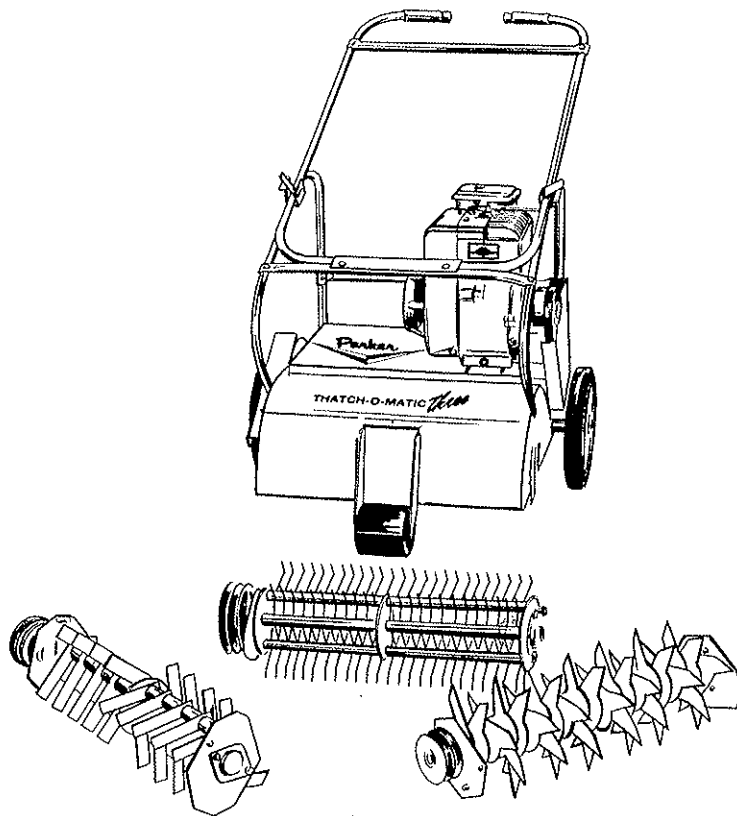
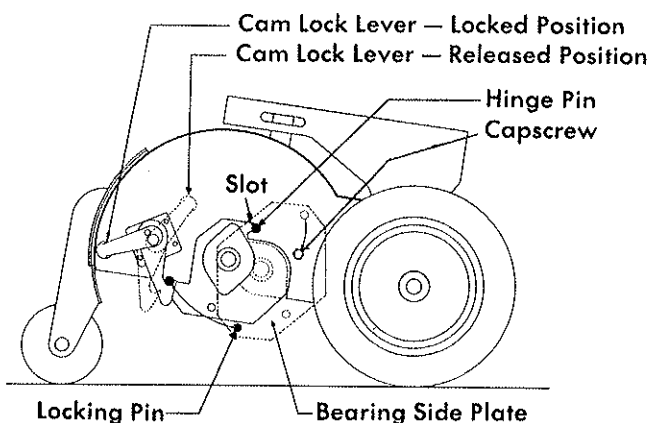

Fig. 1
Fig. 4
6. The three reels as shown on the front cover are oriented correctly to be placed in the machine with the sheaves on the reel to the right side of the machine or to the left as you stand in front of the machine. Refer to Fig. 1. Remove cap screw, Fig. 4, from both reel bearing side plates. Place the reel selected on the ground in front of the roller with the reel sheave to the right of the machine. Push down on handle to raise roller to clear reel as machine is pushed forward. When housing is directly over reel, lower housing so that roller touches the ground in front of reel. With reel under machine, lift reel up into position by placing hinge pin into slot in main housing side
plate. Position cam lock by pushing lever toward rear of machine on each side to clear locking pin, Fig. 4. Swing reel up into position. Turn cam lock lever to front as far as it will go to secure reel in place. Replace both cap screws, Fig. 4.
4. To remove any one of the reels from the machine, remove the belt guard from the right hand side of machine. Take out the cap screws, Fig. 4, from the bearing side plate on each side of machine. Next, move cam lock lever toward rear of machine to release the reel and swing the cam lock away from the locking pin. Push the reel down and toward the back of the machine. Next, remove the belts from the reel sheave and lift the reel assembly toward the front of the machine which will take the hinge pins out of the slots in the housing side plate, allowing the reel assembly to fall free of the machine. If it is necessary to change the jackshaft sheave, follow the instructions in paragraph 5 of assembly instructions. After the proper sheave is in place on the jackshaft, place the new reel under the housing with the sheaves on the same side of the machine as
the two-groove sheave on the jackshaft, which is the right hand side of the machine. Lift the assembly up and place the hinge pins in the slots of the side plate and push them all the way to the back of the slot. Next, place the two belts in the grooves of both sheaves and swing the reel assembly to the front of the machine and up into place. Move the cam lock levers toward the front of the machine locking the reel into place. (When installing the reel assembly, be sure bearing side plates, Fig. 4, do not catch on main housing as assembly is moved up into place.) Install cap screws, Fig. 4, and replace belt guard. It should not be necessary to change belt tension when interchanging reels, however, belt adjustment can be made by following instructions in paragraph 7 of Assembly Instructions. **NOTE:** When re-assembling pulley, grease end of shaft to prevent parts from rusting together.